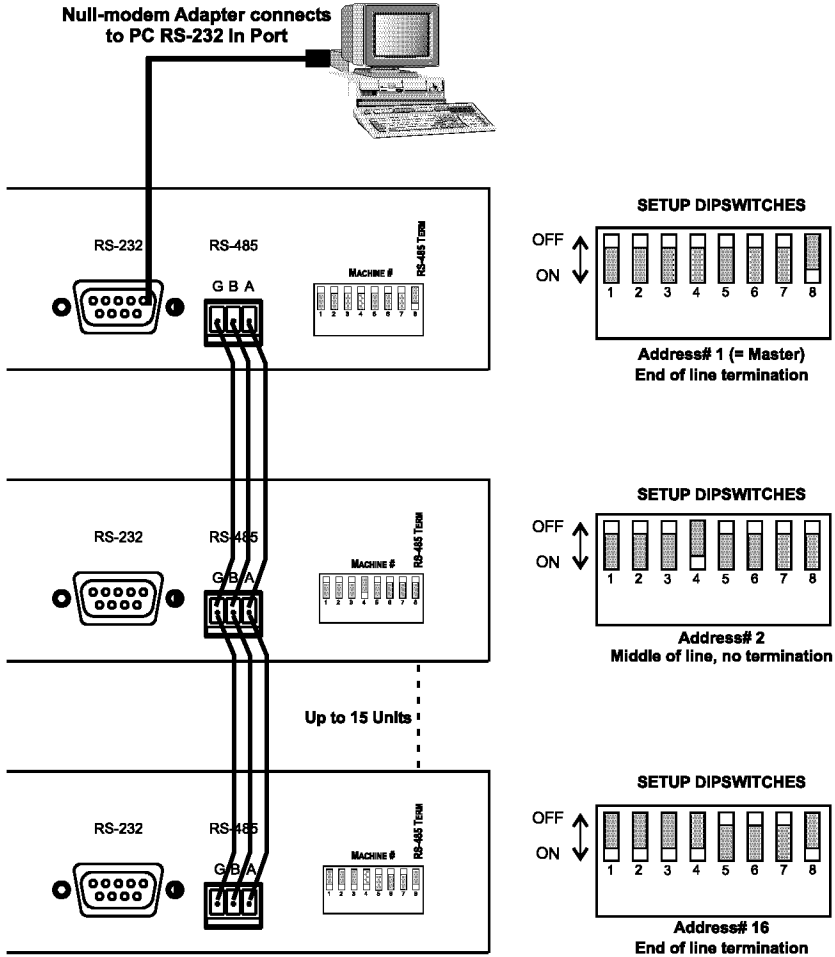

Figure 5: Master/Slave Configuration
- A PC that connects via its RS-232 interface to a master **VS-121HC** that connects up to 15 slave units through its RS-485 interface (see *Figure 5*)
To cascade up to 15 individual **VS-121HC** units, via RS-485, as illustrated in *Figure 5*, do the following: